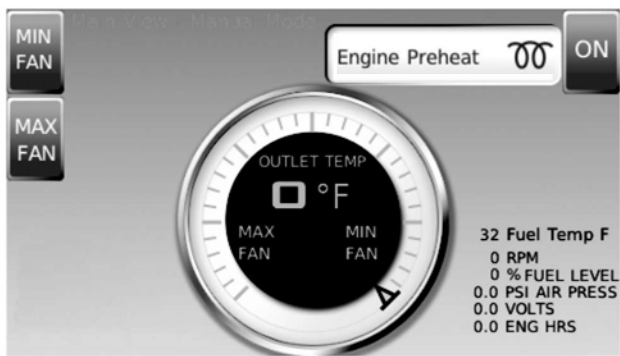

Figure 3-3. Engine Preheat
3. See **Figure 3-3**. Turn ignition key switch to ON. The screen displays “Engine Preheat”. Keep ignition key switch to ON until glow plug indicator turns off.